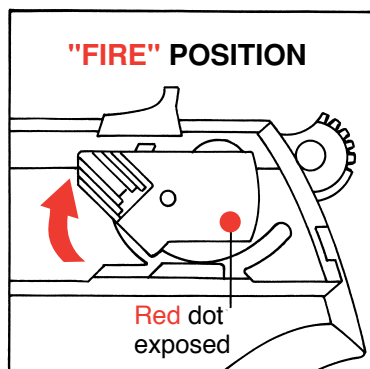

FIGURE 2
8. If the pistol is to be fired immediately, the manual safety can be rotated upward to its “fire” position. (See Figure 2, p. 11.) The firing pin is still blocked at all times by the internal firing pin block unless the trigger is pulled all the way to the rear.